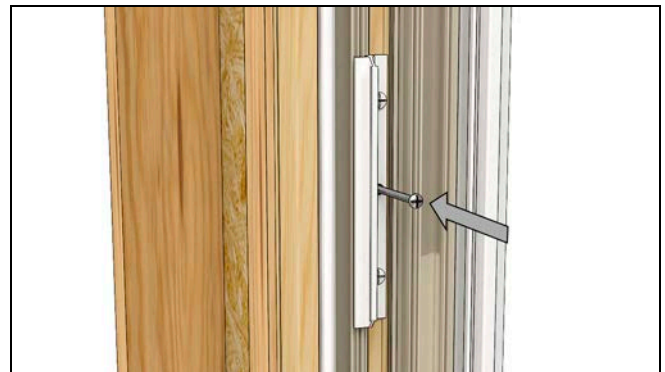

Figure 41
10. Operator units that have performance brackets require a screw through center of each lower jamb bracket(s). See Figure 41.